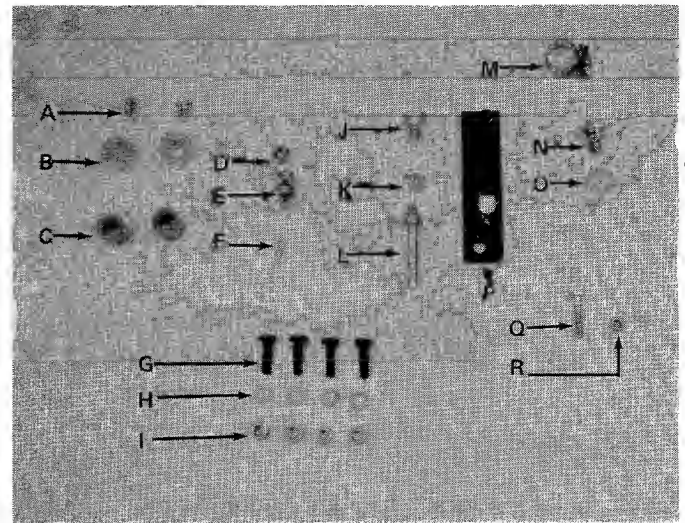

FIGURE 1
LIST OF CONTENTS IN HARDWARE PACK: See figure 1.
1. Remove the engine (with frame), two wheels engagement rod, engagement handle, hoses and hardware pack. See figures 1 & 2.